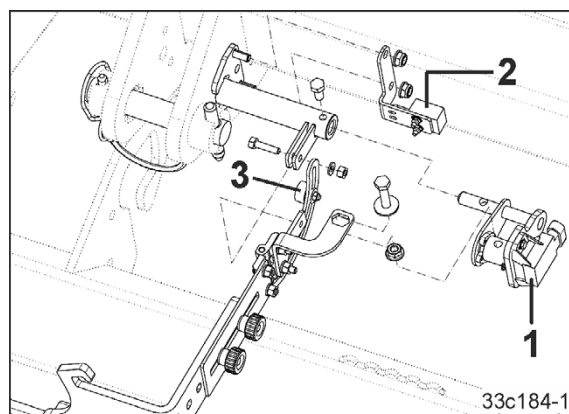

Fig. 51
- Analogue working position sensor (Fig. 51/1) for an implement combination with ISOBUS system
- Working position sensor (Fig. 51/2) for seed tube monitoring with adjustment magnet (Fig. 51/3).